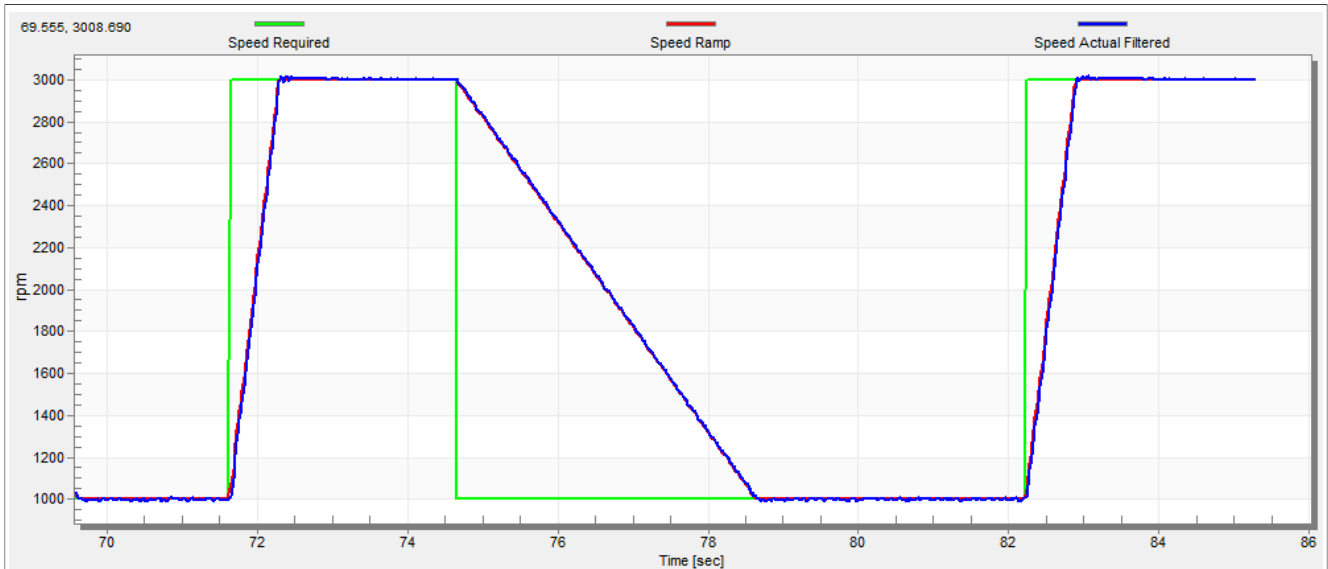

Figure 36. Speed profile
2. The increments are common for the scalar and speed control. The increment fields are in the "Speed loop" tab and accessible in both tuning modes. Clicking the "Update target" button applies the changes to the MCU. An example speed profile is shown in Figure 36. The ramp increment down is set to 500 rpm/sec and the increment up is set to 3000 rpm/sec.